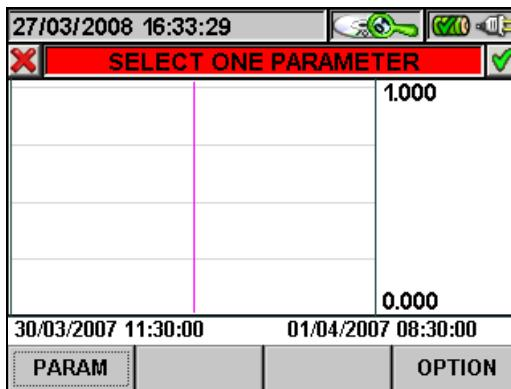

Fig. 98: Selecting a parameter
- The **ESC** key (or smart icon  to exit the function and go back to the "Selecting a parameter" page (Fig. 98).
- The **ESC** key (or smart icon to exit the function and go back to the “Selecting a parameter” page (Fig. 98).
3. Press the **ESC** key (or the smart icon  ) to exit the function and go back to the "Selecting a parameter" page (Fig. 98).